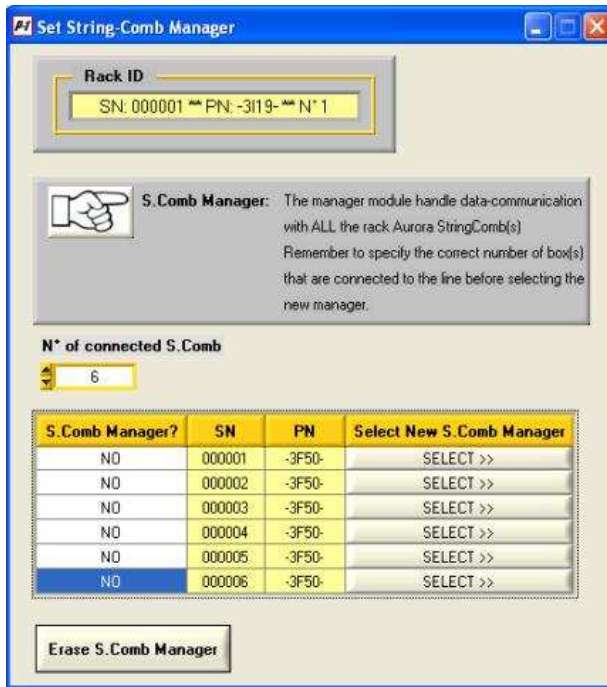

Figure 16-6: Choice of the StringComb Manager
- **Plant value:** will display information about the instantaneous power output (W), the daily energy and the total energy produced (kWh).
- The number of modules contained in the rack (Module No.), operating mode (Mode) and the number of connected string-boxes (S.Comb N.)¹. By pressing the [**Set S.Comb Manager**] button you can access the (Figure 16-6) menu by which, pressing the [**SELECT>>**] button, the management and monitoring of the PVI-STRINGCOMB-US is assigned to the corresponding module.